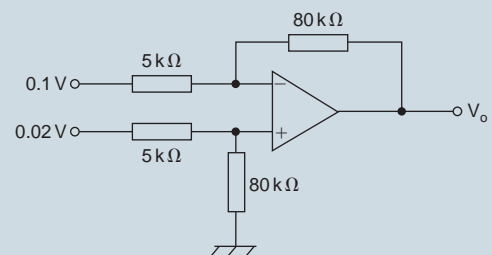

Figure 21.29
9. In the differential amplifier shown in Fig. 21.29, the output voltage, V_o , is: